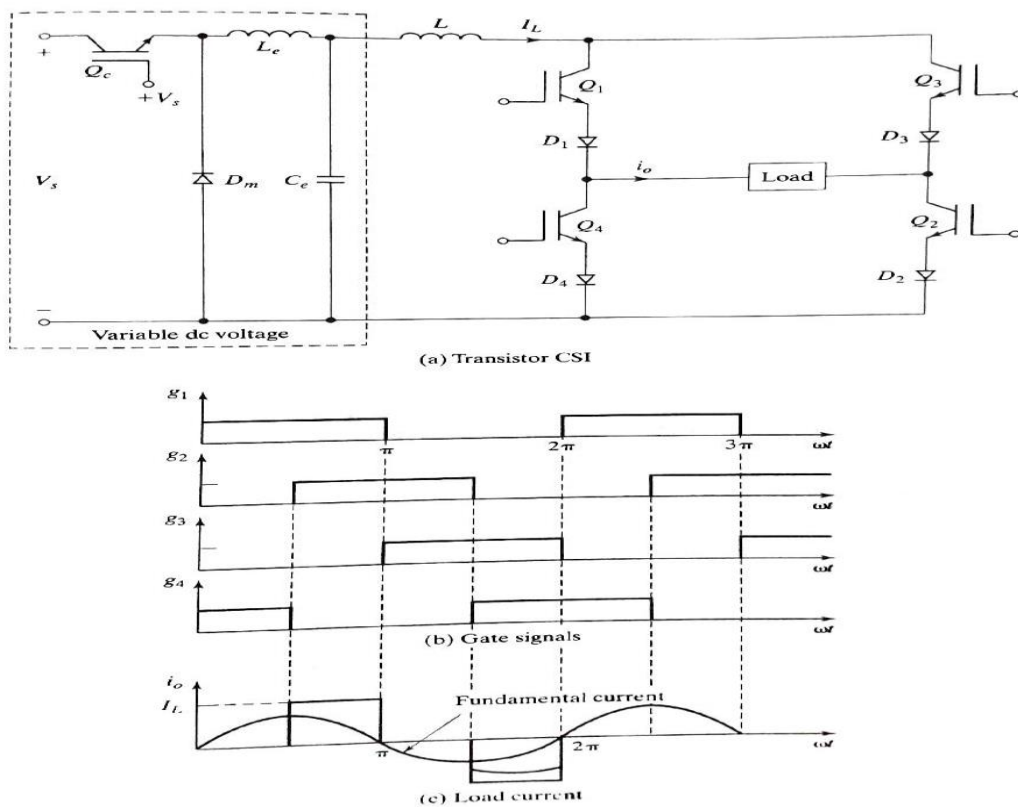

FIGURE 6.36 Single-phase current source.
- This is shown in Figure 6-1b or Figure 6.36.